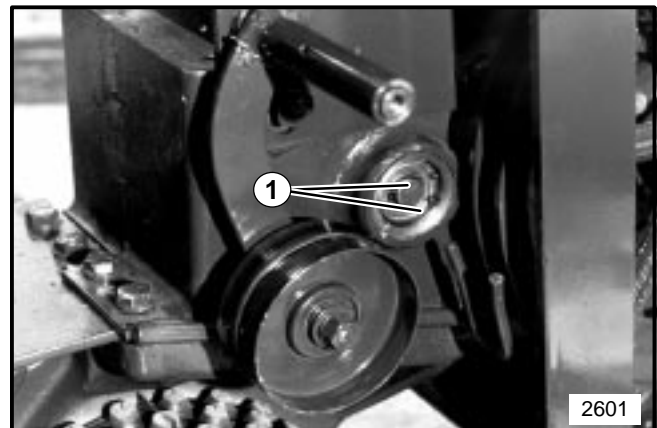

FIGURE 12
6. Remove snap rings from left bearing. See Figure 12.